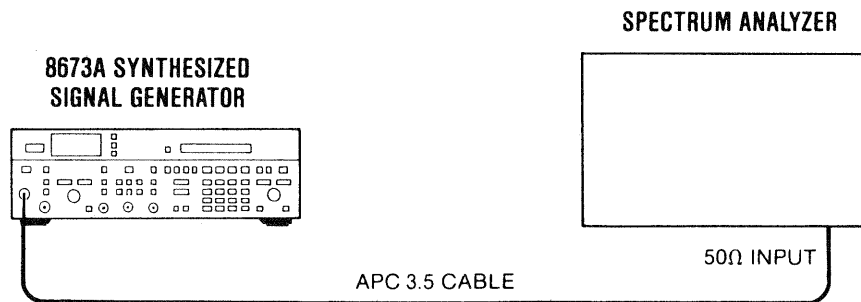

Figure 4-16. On/Off Ratio Test Setup
32. Connect the equipment as shown in Figure 4-16.